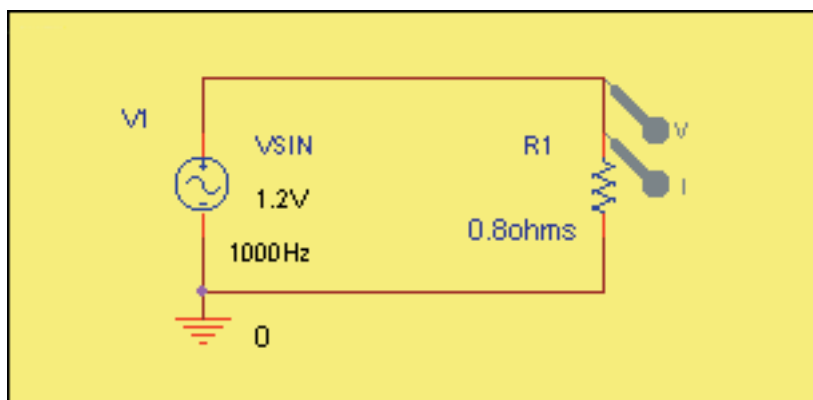

FIGURE 17–29 Using PSpice to investigate instantaneous power in an ac circuit.
The time-varying relationships between voltage, current and power described earlier in this chapter can be investigated easily using PSpice. To illustrate, consider the circuit of Figure 17–3 with $v = 1.2 \sin \omega t$, $R = 0.8 \Omega$ and $f = 1000$ Hz. Create the circuit on the screen, including voltage and current markers as in Figure 17–29, then set VSIN parameters to VOFF = **0V**, VAMPL = **1.2V** and FREQ = **1000Hz** as you did in Chapter 16. Click the New Simulation Profile, type **fig17-29** for a name, choose Transient, set TSTOP to **1ms**, then click OK. Run the simulation and the voltage and current waveforms of Figure 17–30 should appear. To plot power (i.e., the product of vi), click Trace, then Add Trace, and when the dialog box opens, use the asterisk to create the product
2. If you want to include the identification VSIN, 1000Hz, etc. on your schematic as in Figure 17–29, do it from the Property Editor as described in Chapter 16.
$V(R1:1)*I(R1)$, then click OK. The blue power curve should now appear. Compare to Figure 17–3. Note that all curves agree exactly.